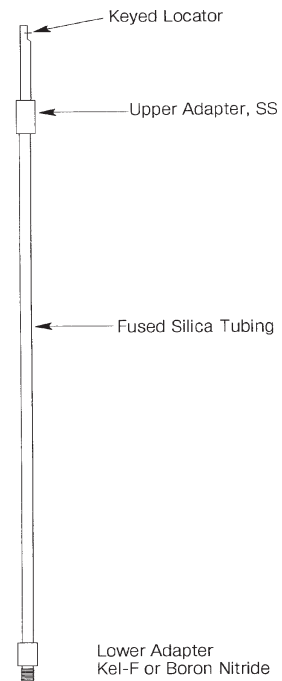
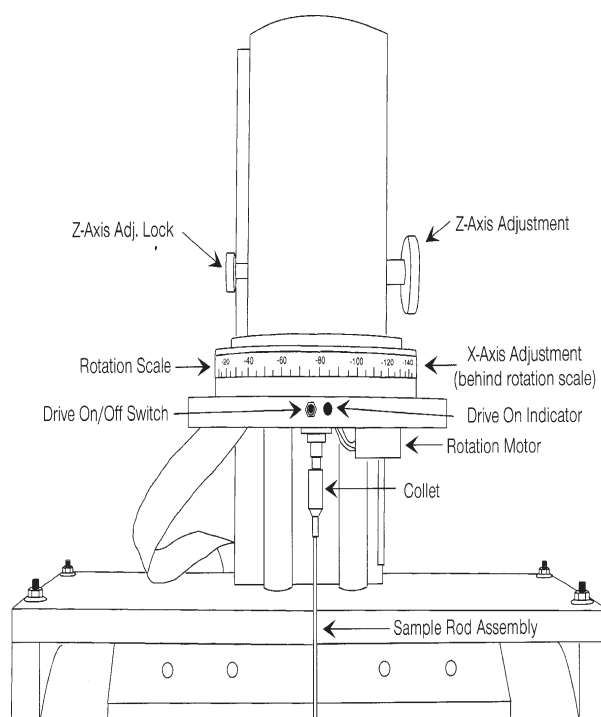

Figure 3. Sample rod. Note keyed end which can only be inserted into chuck/collet in one orientation.
Figure 4. Vibration head showing locations of X-Y-Z adjustment knobs, Z-axis lock, and collet.
a) For measurements in the furnace, use a glass rod; the ceramic tip is threaded to match the sample mount (Fig. 3).
3) Insert the sample holder (with sample) into the chuck (collet; Fig. 4) on the bottom of the vibration unit. The sample holder rods are “keyed”, i.e., they have a flat section at the upper end (Fig. 3); press gently upward and twist the rod until the flat section snaps into place. Gently tighten the chuck.